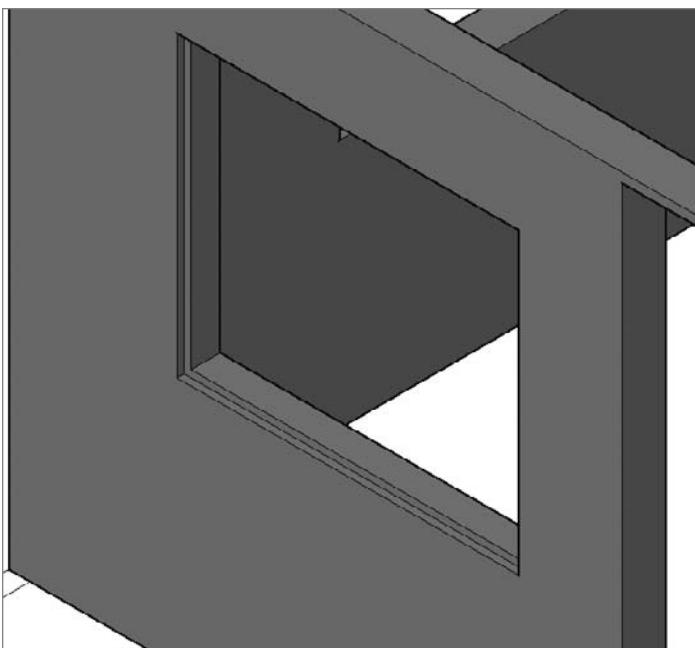

FIGURE 16.32 The completed kitchen window frame
10. Using the Subtract Boolean function, subtract the block-out from the frame. Switch back to the Conceptual or X-Ray visual style, and your window should look similar to Figure 16.32.